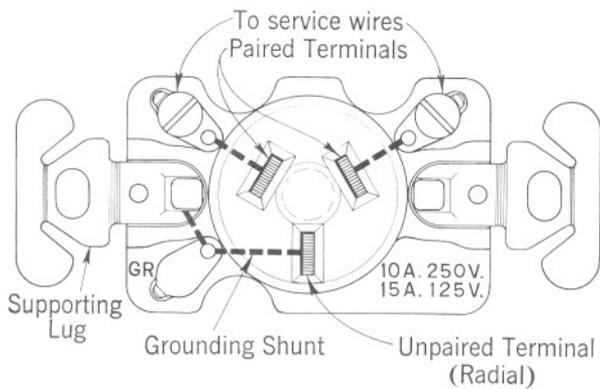

Fig. 3 — 3-wire Flush-type Receptacle with Grounding Shunt
5.06 The Hubbell No. 7189, 3-way flush-type plug receptacle, or its approved equivalent, is grounded by a shunt from the unpaired terminal to the outlet box through the supporting lugs as shown in Fig. 3.